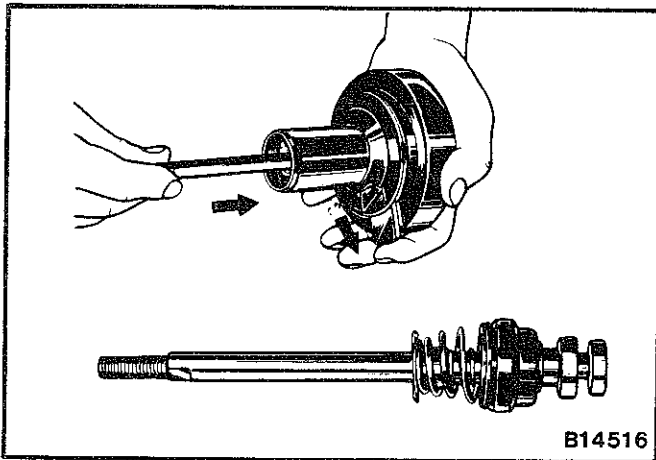

Fig. 6—Removing the valve rod and plunger
(8) Disassemble the diaphragm plate assembly as follows:
- (c) Remove the valve plunger stop key, and then slowly pull off the valve rod and plunger assembly. To remove the key, hold the valve plunger with the key hole facing down and remove the key by lightly pushing the rod while shaking the assembly (Fig. 6).